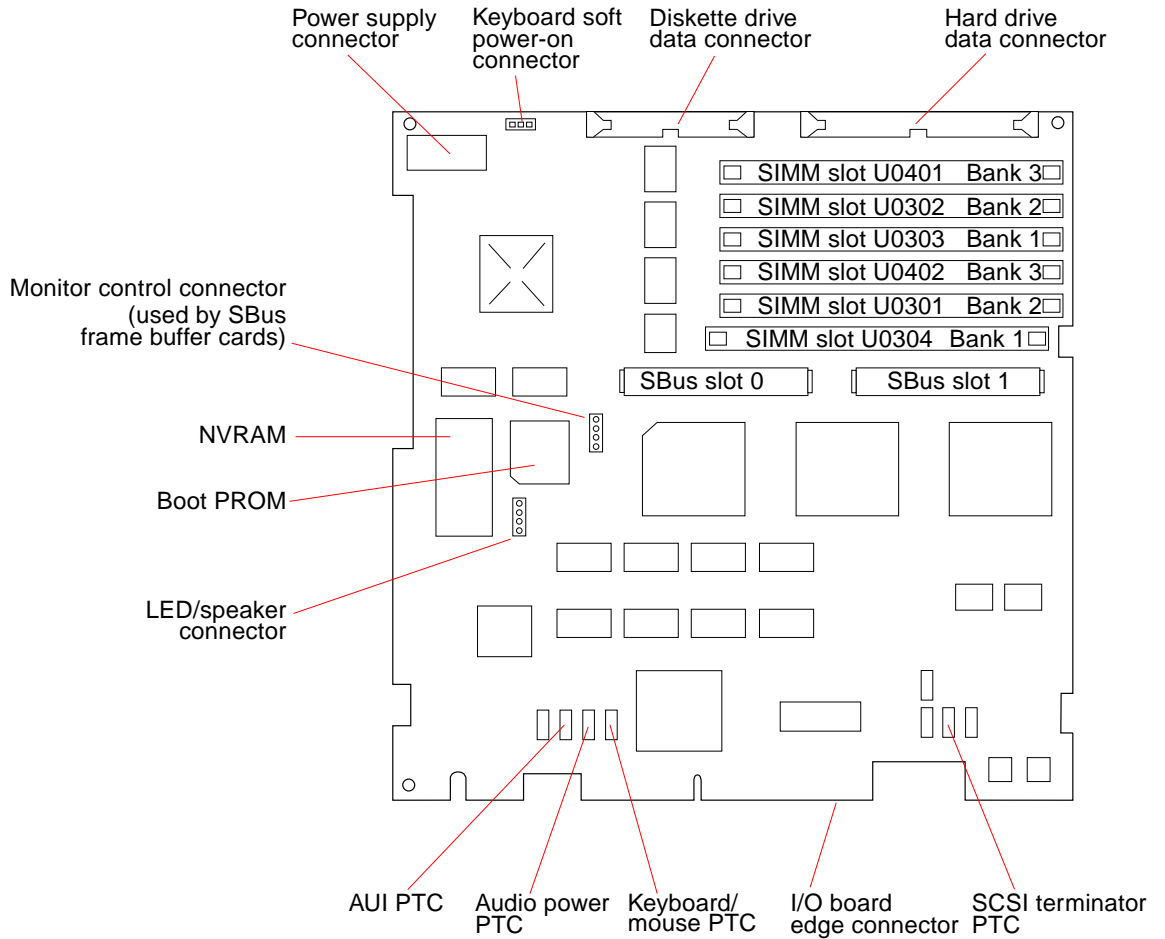
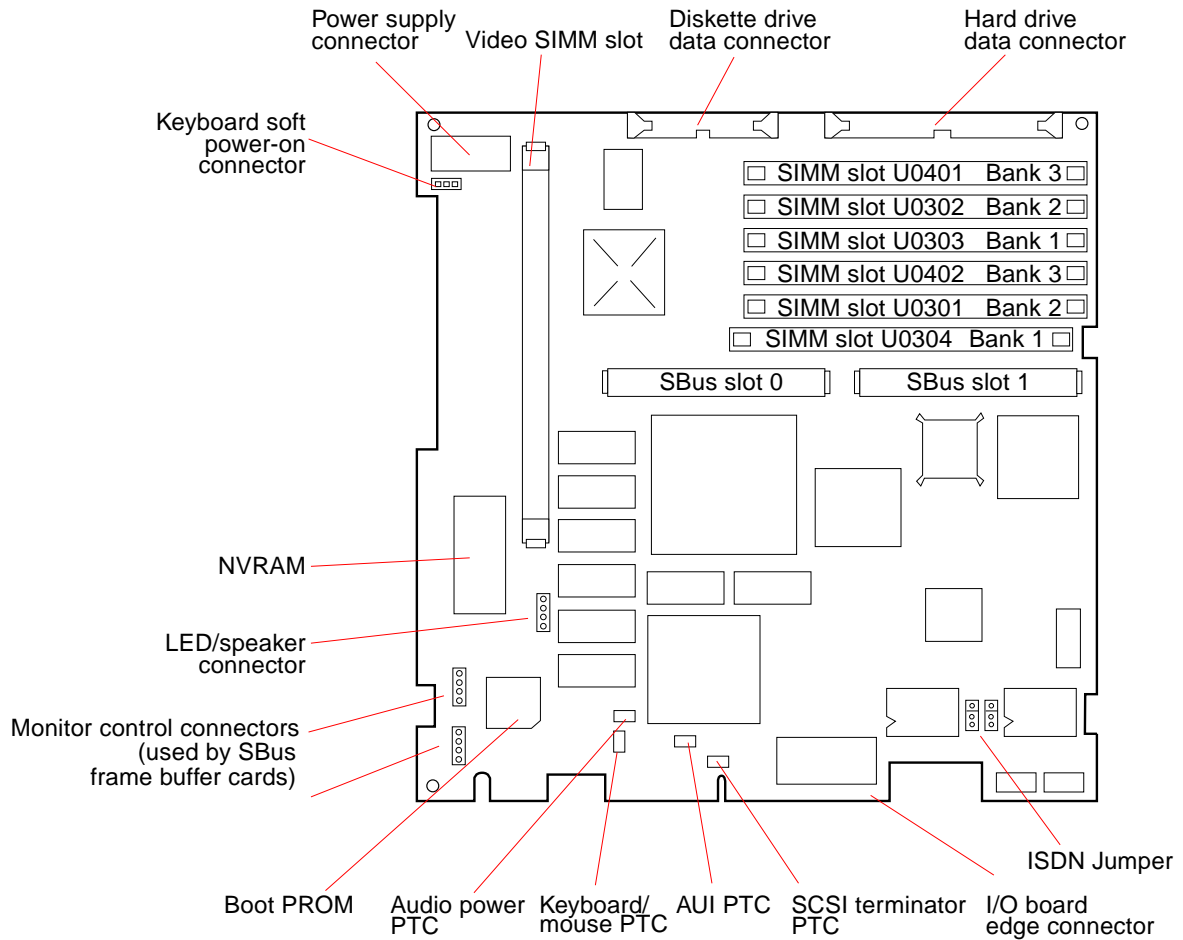

FIGURE 11-12 Main Logic Board Layout—SPARCclassic/SPARCclassic X
FIGURE 11-13 Main Logic Board Layout—SPARCstation LX (Part 270-2233)
There are no voltage test points on the main logic board. If you need to measure voltages, the safest place is at the power supply connection on the main logic board (see FIGURE 11-12 and FIGURE 11-13). See Section 11.4.2 “Before Replacing the Main Logic Board” on page 11-21 for the connector wiring and voltages.
- a. Make sure that all SIMMs are correctly seated, the power supply harness is connected to the main logic board, and all replaceable chips on the board are correctly seated in their sockets. (See FIGURE 11-12 and FIGURE 11-13 for SIMM locations.)
For connector locations, refer to FIGURE 11-12 and FIGURE 11-13 in Section 11.4 “Main Logic Board” on page 11-17.